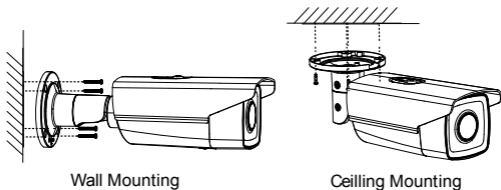

Figure 2-14 Install the Bracket onto the Wall
4. Fix the bullet camera to the installation surface with the supplied screws, as shown in Figure 2-14.